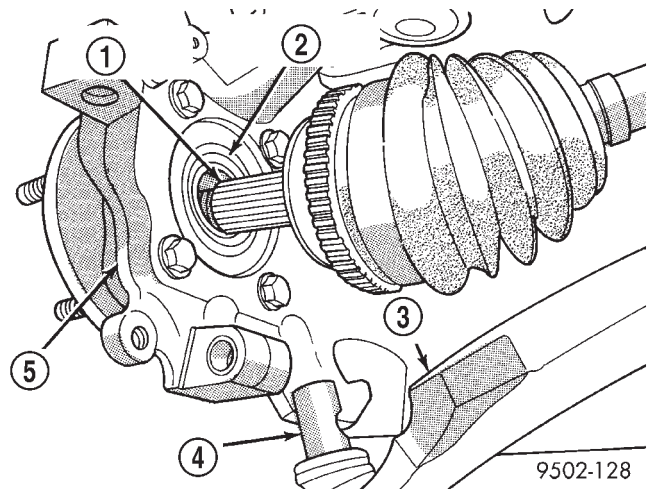

Fig. 12 Steering Knuckle Separation From Driveshaft
(14) Pull steering knuckle assembly out and away from the outer C/V joint of the driveshaft assembly (Fig. 12).
(6) Slide drive shaft back into front hub and bearing assembly. Then install steering knuckle onto the stud of the ball joint assembly (Fig. 12).